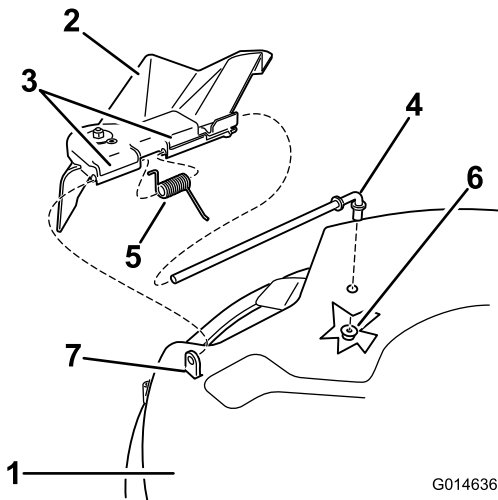

Figure 57
9. Secure rear end of rod into the mower with a nut (3/8 inch) as shown in Figure 57.
1. Locate items shown in Figure 57.
2. Remove the nut (3/8 inch) from the rod under the mower (Figure 57).
3. Slide the rod out of the short stand-off, spring, and grass deflector (Figure 57).
5. Replace the grass deflector (Figure 57).
7. Place the spring on the rod, with end wires down, and between the grass deflector brackets. Slide rod through second grass deflector bracket (Figure 57).